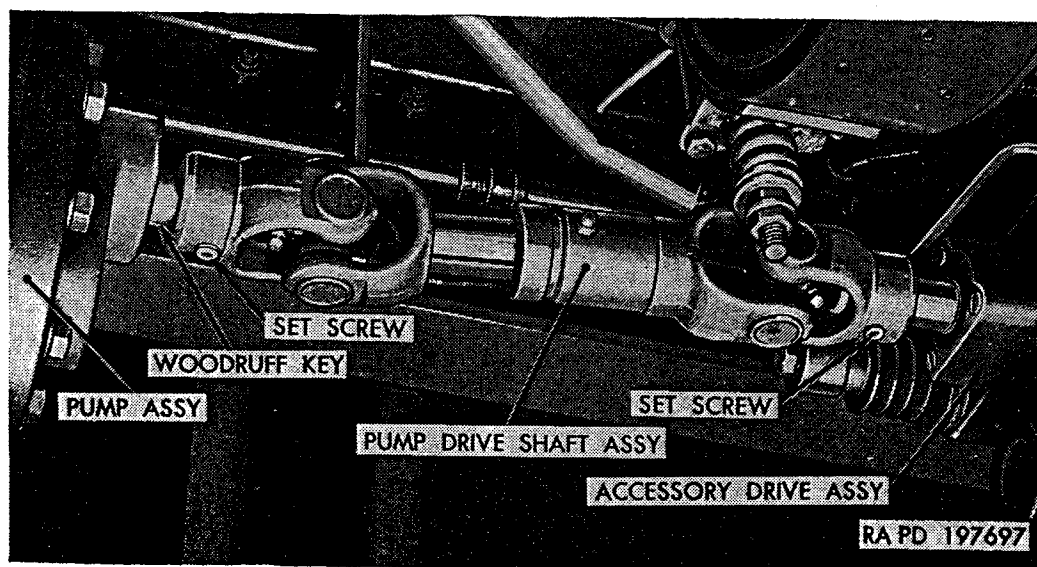

Figure 362. Pump drive shaft installed.
a. General. Hoist pump assembly is driven from accessory drive unit assembly, which is mounted on top of power-take-off assembly. Drive shaft assembly (fig. 362) connecting pump and accessory drive unit is conventional type consisting of two universal joints and slip joint.
- (1) *Removal* (fig. 362). Remove setscrew at each end of drive shaft. Use soft hammer to tap universal joint yokes from pump and accessory drive shafts. Remove woodruff keys.
- (2) *Installation* (fig. 362). Install one $\frac{1}{4} \times \frac{7}{8}$ woodruff key in pump and accessory drive shafts. Position drive shaft assemblies with keyways in universal joint yokes aligned with keys in shafts. Tap yokes with soft hammer until fully installed on shafts. Install a $\frac{3}{8}$ -16 \times $\frac{1}{2}$ socket-head setscrew in yoke at each end of shaft. Prick punch each screw to prevent loosening.